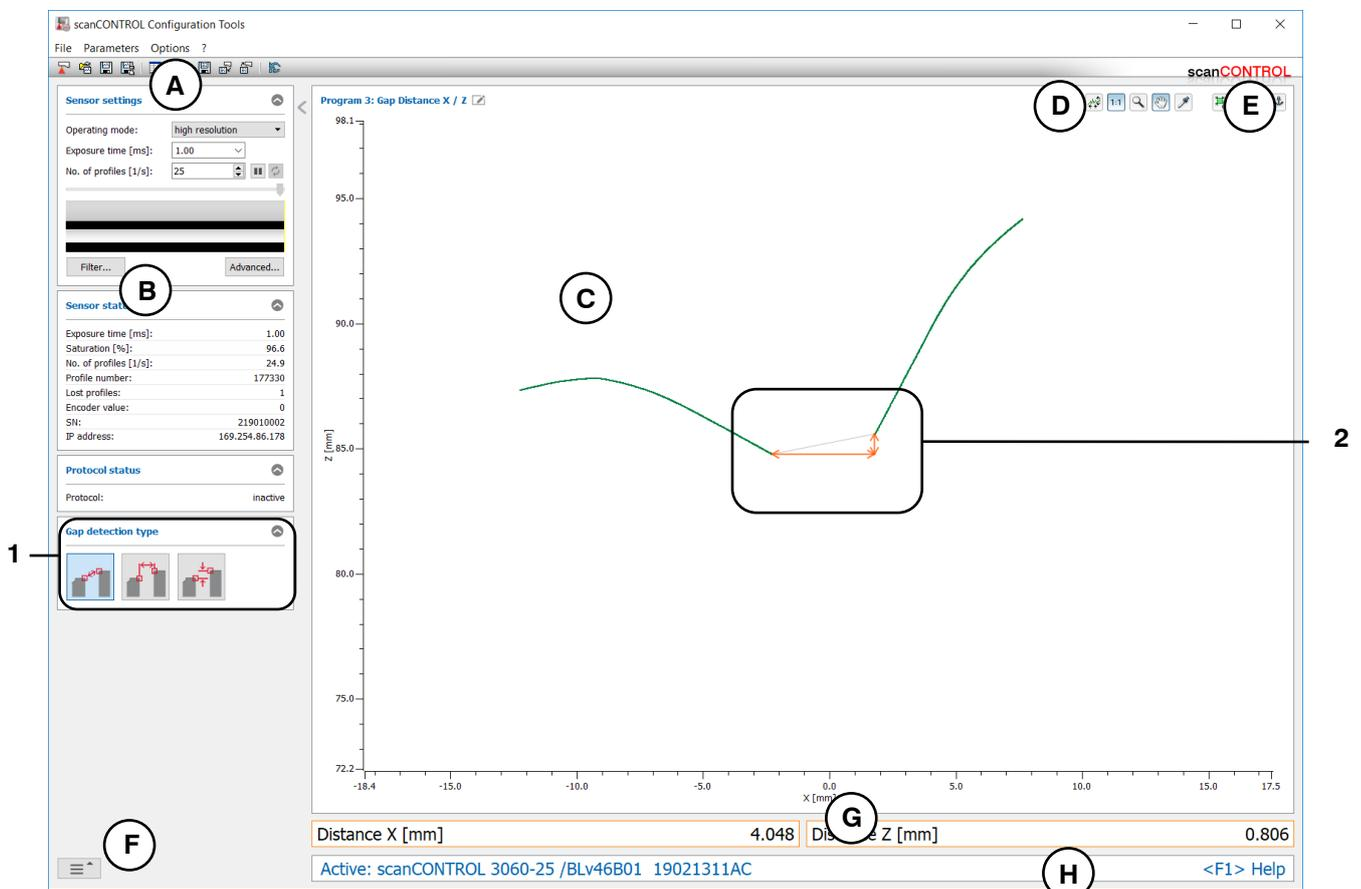

Fig. 4.39: "Gap Distance X/Z" measuring program
- Define the type of gap detection (see Fig. 4.39):